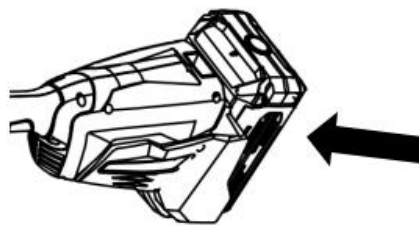

Fig.5
1. Put the adapter into the machine (Fig 5), adapter is being sold separately.